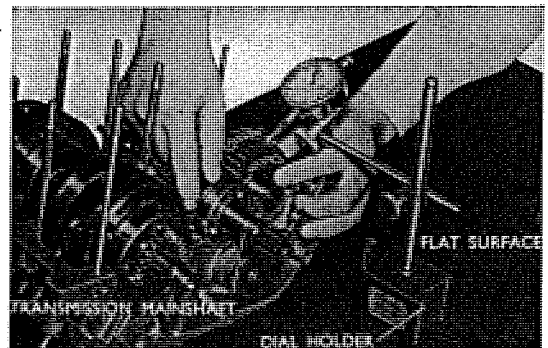

Fig. 3.120 After the transmission and crankshaft are coupled, the lower crankcase should be matched
- Measuring play on the gear teeth surface of the transmission unit. (Refer to Fig. 3.120)